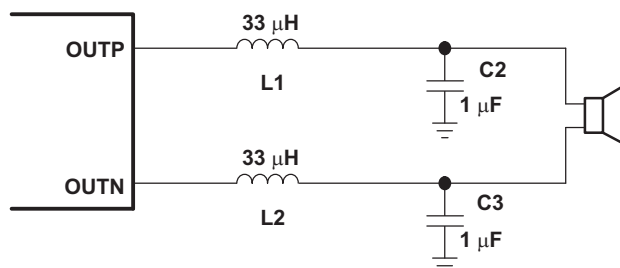
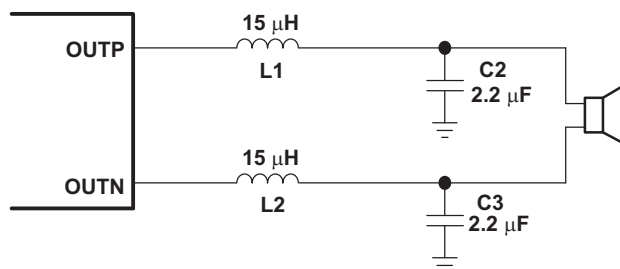

Figure 33. Typical LC Output Filter, Cutoff Frequency of 27 kHz, Speaker Impedance = 8 Ω
Figure 34. Typical LC Output Filter, Cutoff Frequency of 27 kHz, Speaker Impedance = 4 Ω
- **Output filter**—The ferrite EMI filter (Figure 35) must be placed as close to the output terminals as possible for the best EMI performance. The LC filter (Figure 33 and Figure 34) must be placed close to the outputs. The capacitors used in both the ferrite and LC filters should be grounded to power ground.